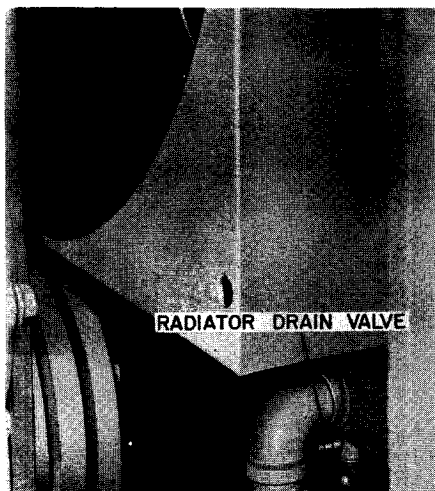

Figure 73. Radiator Drain Valve Location
1. While the coolant is still hot, open the radiator drain valve and the engine block drain valve, Figure 73 and 74.